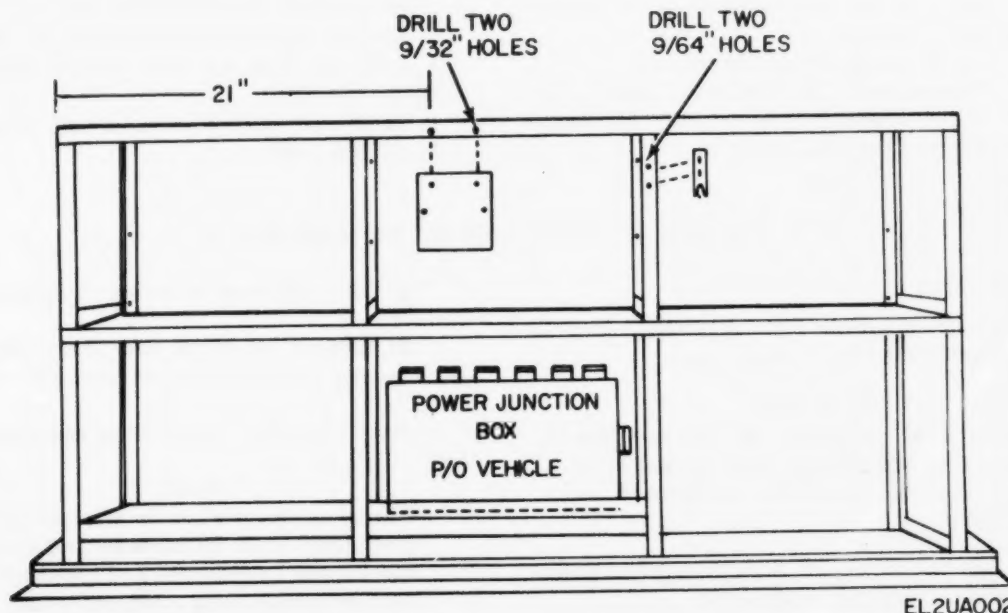

Figure 2-2. Mounting and accessory support kit and support assembly
(2) Using item 2, figure FO-1 as a template, drill two 9/64-inch holes and fasten microphone hook (located at discretion of user) to equipment rack as shown in figure 2-2, using hardware supplied.
(3) Using item number 31, figure FO-1 as a template, measure 21 inches from the left on the top shelf and mark holes for drilling (fig. 2-2). Drill two 9/32-inch holes. Fasten item number 1, figure FO-1 to item number 31, figure FO-1 using items 27, 28, 29, and 30. Fasten above items to the top shelf (fig. FO-1) using items 27, 28, 29, and 30.